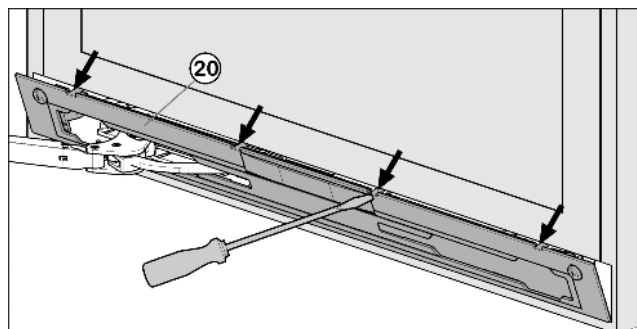

Fig. 9
- ▶ Disengage and remove the faceplate *Fig. 9 (20)* using a flat-blade screwdriver.